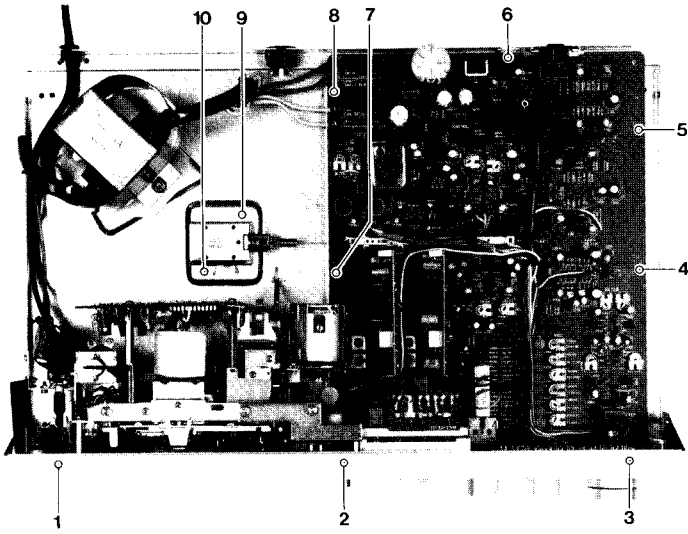

Fig. 10
- b) Remove screws 1-3, Fig. 10 and 2, 4, 7, Fig. 7 and take away the front panel.
Remove screws 9, 10 Fig. 10. Separate the lifting magnet from the switch pole and remove the magnet.
- c) Die Schrauben 4-8, Fig. 10 entfernen und Hauptplatte entnehmen.
- c) Remove screws 4-8, Fig. 10 and take away main board.